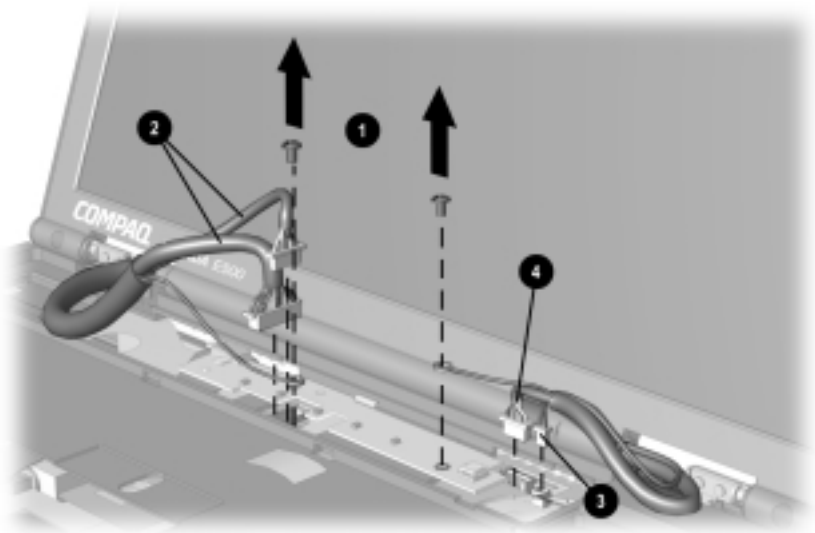

Figure 5-14. Disconnecting the Display Assembly Cables
10. Remove the screws ❶ that secure the display ground cables (Figure 5-14).
11. Disconnect the display panel ❷, microphone ❸ and display inverter cables ❹ from the system board.